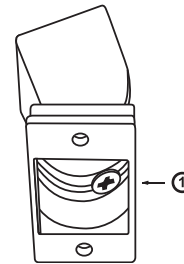

Figure 1
Refer to Figure 1
Step 1 - Tighten the Phillips-Head Set Screw on the back of each bracket to set the desired angle (see Fig. 1).